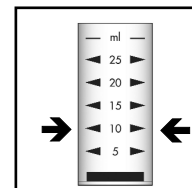

Figure 5
6. Pour **10 mL** of the treated sample into the **25 mL sample cup** (fig. 5), **Do not transfer cadmium particles** to the sample cup.